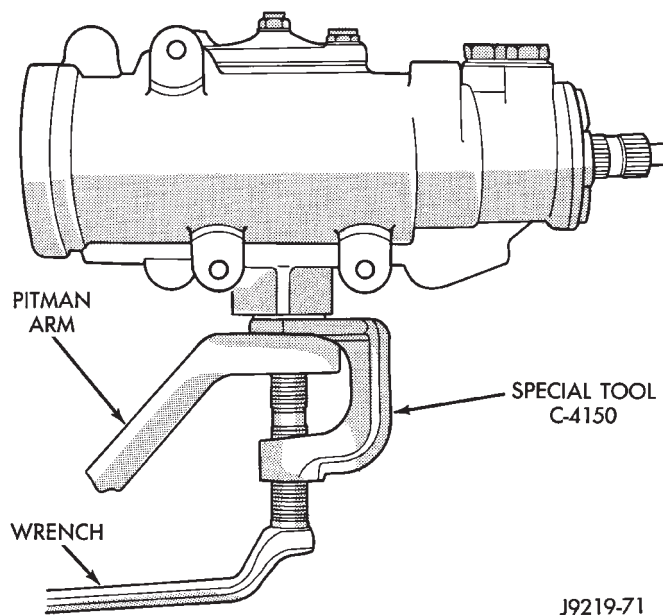

Fig. 4 Pitman Arm Removal
- (1) Remove the cotter pin and nut from the drag link at the pitman arm.
- (2) Remove the drag link ball stud from the pitman arm with a puller.
- (3) Remove the nut and washer from the steering gear shaft. Mark the pitman shaft and pitman arm for installation reference. Remove the pitman arm from steering gear with Puller 7998 or C-4150 (Fig. 4).